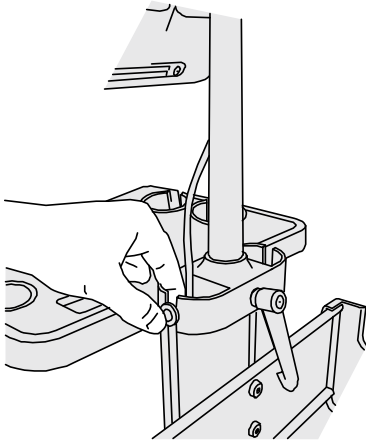

Figure 15 Place grommets.
- 2 (Printer or DVD recorder) Fold excess cable behind the device, and insert the cables into the groove on either side of the column. Place grommets in the column near the top. See Figure 15.